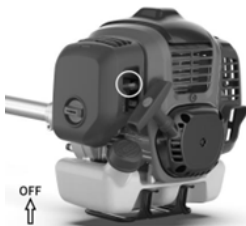

FIG.14
4. Move the choke lever to  position. (Fig.14)